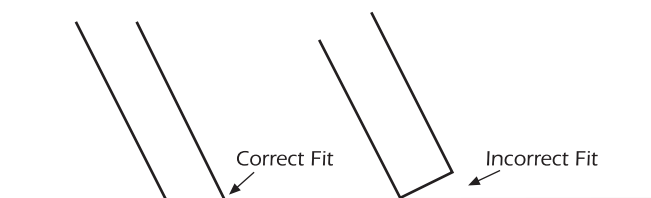

Fig. 9
Step 13- Draw a straight line between the points. Cut each bottom stringer to the proper length, along the lines drawn. The bottom section of the stairs should fit flush with the floor on both sides after cutting. (See Fig. 9)